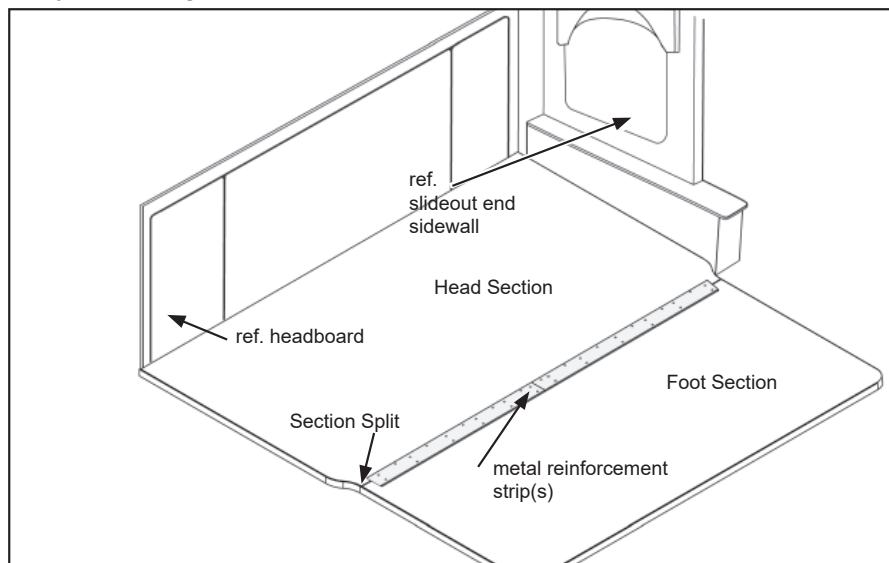

Figure 2
3. Locate the slideout platform bed. Refer to Figure 1. Lift up or remove the mattress to inspect the platform bed's plywood top for the presence of metal reinforcement strip(s) and to ensure it is level and not bent or otherwise damaged. See Figure 2.
- a. If metal reinforcement strip(s) are installed at the section split on the platform bed's plywood top (as shown in Figure 2), and it is level and undamaged, take a few clear photos of the bed top which clearly show the metal reinforcement strip is installed. **The photos MUST be attached to the claim in REV RV's Dealer Warranty portal in order for the claim to be eligible for reimbursement.** Use the Flat Rate code for "Inspected/Not Defective", as listed on Page 4. No further work is required if the unit was inspected and determined not defective.
Referring to Figure 2 on the previous page, locate the center of the bed top and butt the strips up against each other lengthwise, centering the pair from the left side of the platform to the right side. It may be helpful to use a tape measure and mark the locations with a pencil.
9. Position one of the new metal strips over the bed platform section split; it is to be 5/8" overlap over the outer (head) platform section, and 2 7/8" overlap over the inner (foot) platform section. Repeat with the second metal strip on the opposite side of the bed top. Refer to Figures 2 and 3.